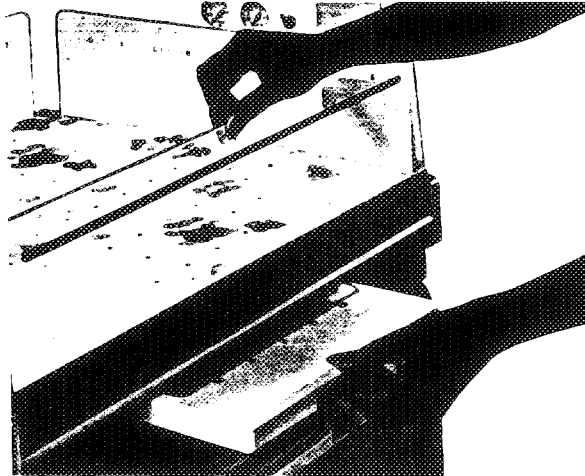

FIGURE 4.10 CHECKING THE X-RAY TRAY
6. **CHECK THE OPERATION OF THE X-RAY CASSETTE TRAY (ACCESSORY)** (Figure 4.10) by pulling up the middle of a Side Panel and pulling the X-ray Cassette Tray out from under the Bassinet. Replace the X-ray Cassette Tray by reversing the procedure.